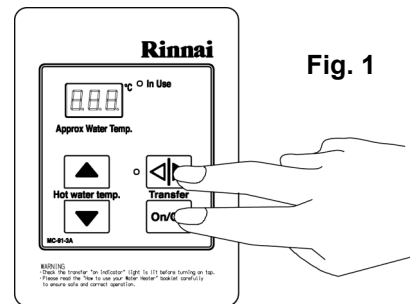

Fig. 1
**STEP 1:** On the Master controller only press and hold the **Transfer** and **ON/OFF** buttons simultaneously (see Fig. 1) until a “beep” is heard (approx. 5 seconds).
**STEP 1:** On the Master controller press and hold the **Transfer** and **ON/OFF** buttons simultaneously (see Fig. 1) until a “beep” is heard (approx. 5 seconds).